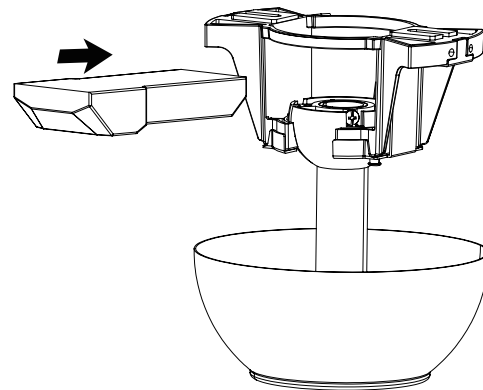

Fig. 15
Step 1. Insert the receiver into the ceiling mounting bracket with the flat side of the receiver facing the ceiling (**Fig. 15**) for best performance, make sure the black antenna wire (on the end of the receiver) remains extended, and does not become tangled with the electrical wires.